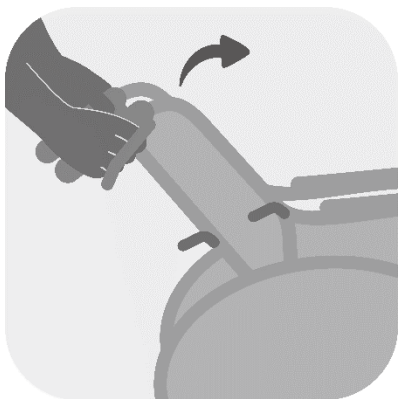

Figure 4.1
1. Hold the push handles and fold up the back joints until you hear them click into place. (See Figure 4.1.)